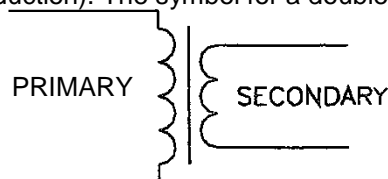

Figure 3 - Single phase transformer symbol.
- In this type, the primary and secondary windings are insulated electrically, but they are connected magnetically (by mutual induction). The symbol for a double wound transformer is shown in Figure 3: